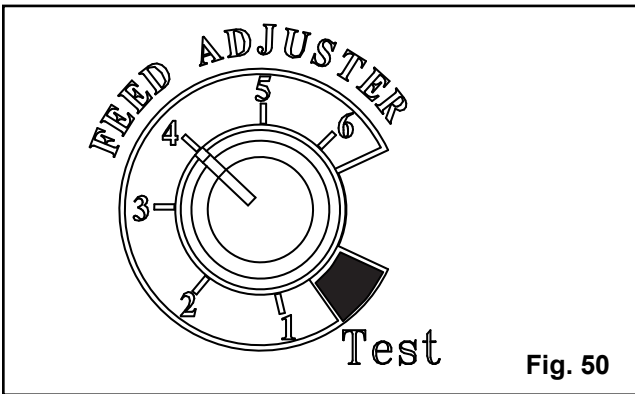

Fig. 50
5. Turn Feed Adjuster to #4. If this is your first fire, or you are trying different pellets, set the feed adjuster to #4, Fig. 50. This is a conservative number and will probably need to be increased if maximum BTU output is desired. After you know a feed rate setting that works well for your application, use that setting. Remember, if your feed rate is too high you may waste fuel due to overshooting the Wall Control setting.